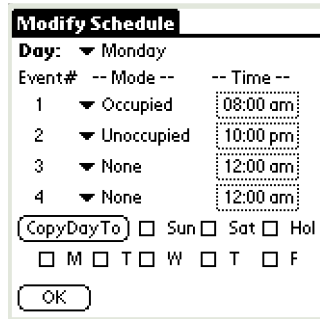

Fig. 37. Weekly Schedule modification screen.
- a. Tap Modify. (See Fig. 37.)